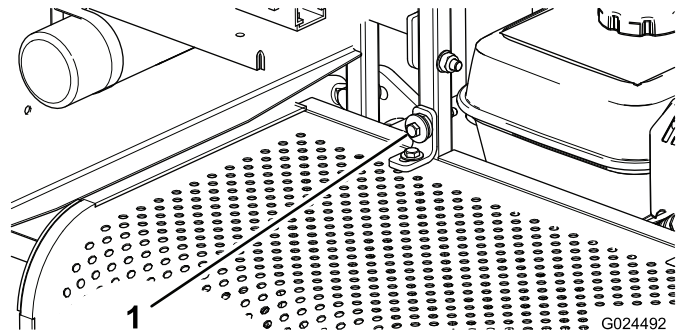

Figure 22
1. Remove the mounting bolt and lift off the rear cover (Figure 22)